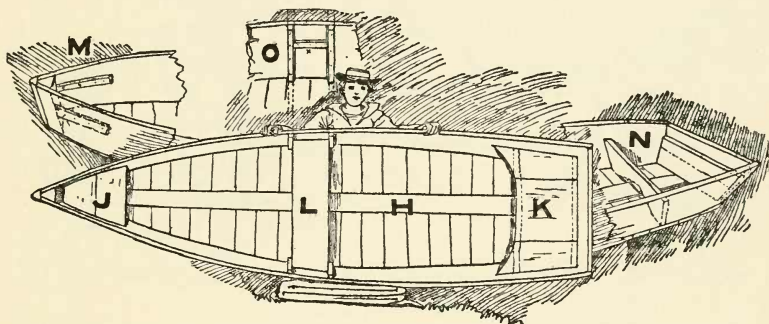

Fig. 197.—Details of bow, stern, seats, and finished boat.
consist of a triangular one at the bow (J), the oarsman's seat (L), and the stern seat (K, Fig. 197). The bow seat is made of 1-inch boards nailed to two cleats shown at M (Fig. 197). N shows the bench for the stern seat and O explains the arrangement of the oarsman's seat a little forward amidship. As may be seen, it rests upon the cleats *x* (diagram O, Fig. 197), which are fitted between two upright cleats on each side of the boat; this makes a seat which will not slip out of place, and the cleats serve to strengthen the sides of the otherwise ribless boat. Make the cleats of 1 by 2 inch lumber and let the seat be about 12 inches wide. The stern seat may be wider, 1½ feet at K and 4 or 5 inches
more at the long sides of the two boards each side of K (Fig. 197). Of course, it is not necessary to fit a board in against the stern-piece, for a cleat will answer the purpose, but a good, heavy stern-piece is often desirable and the board shown in diagram N (Fig.
is an advisable addition to the boat, but may also be omitted without serious results (H, Fig. 197).